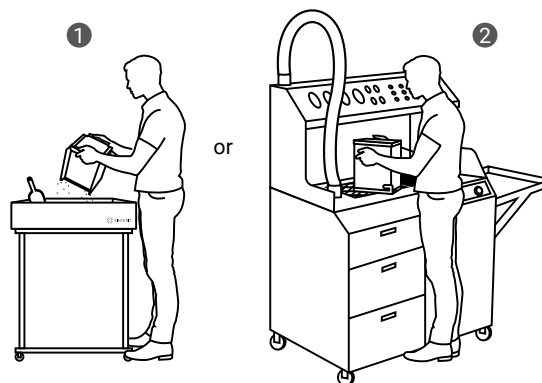

Fig. 8.5 Moving the IO BOX to the Foldable Tray ① or to the PHS worktop ② to clean the printout.
10. Carry the IO BOX and its contents onto the foldable tray ① or on the PHS worktop ② (fig. 8.5) then press **DONE** on the screen.